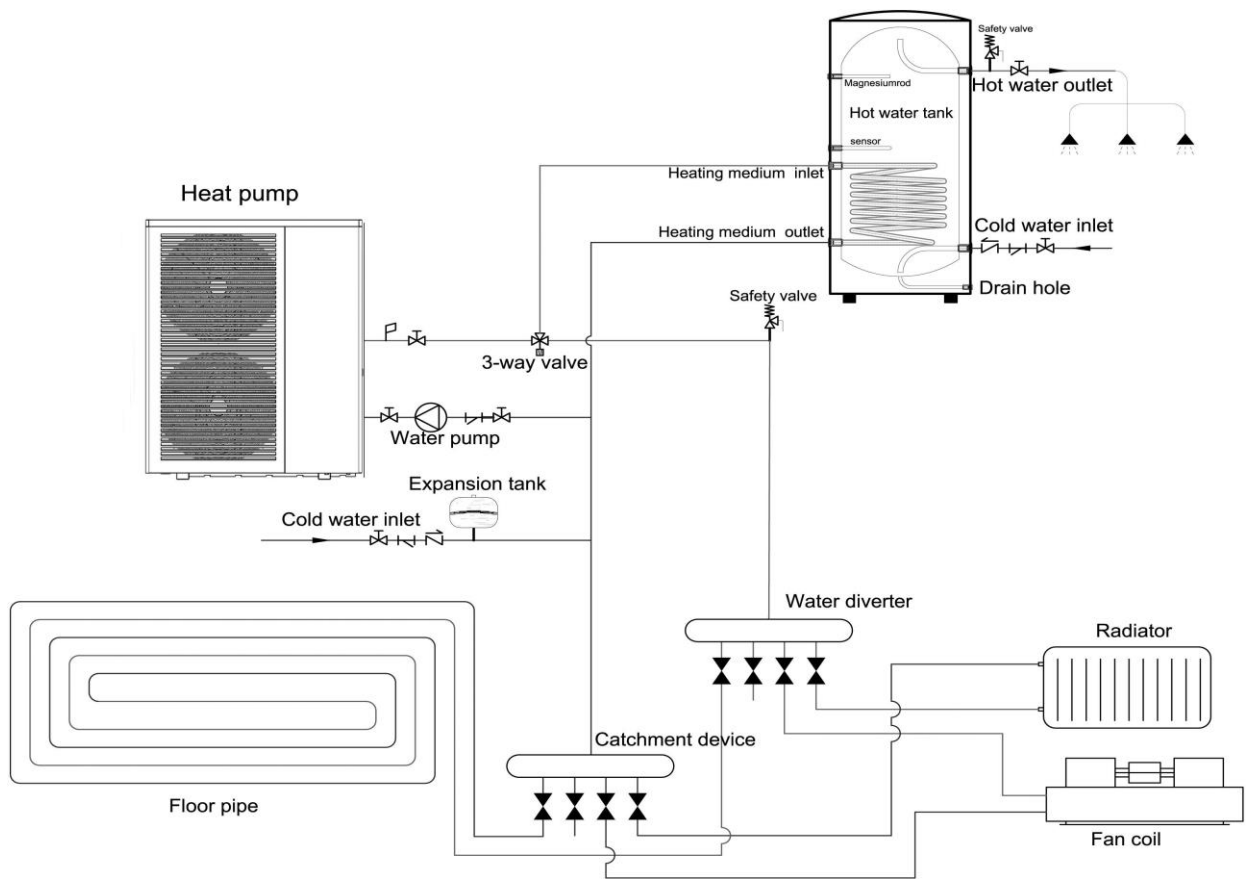

Figure 2
- 1) System installation diagram (see Figure 2).